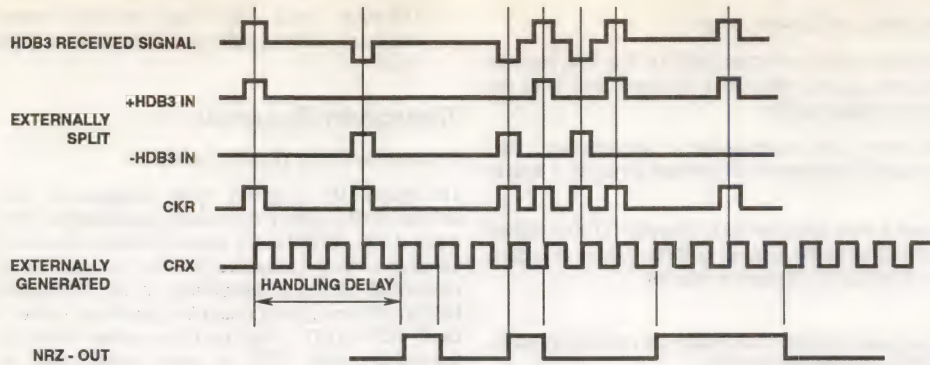

FIGURE 2. RECEIVER DECODER OPERATION TIMING WAVEFORMS - HDB3 TO NRZ DECODING
**Receiver Decoder (See Figure 2)**